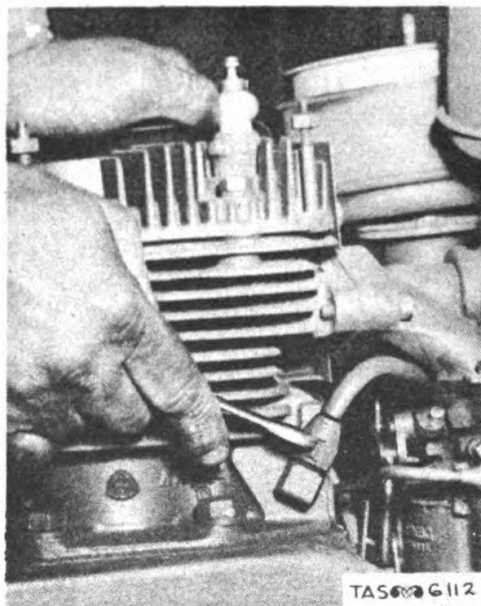

Fig. 113. Removing Adapter Union Holding Breather Line to Engine and Disengaging Line from Engine.
6. Remove adapter union holding breather line to engine and disengage line from engine. (See fig. 113.)